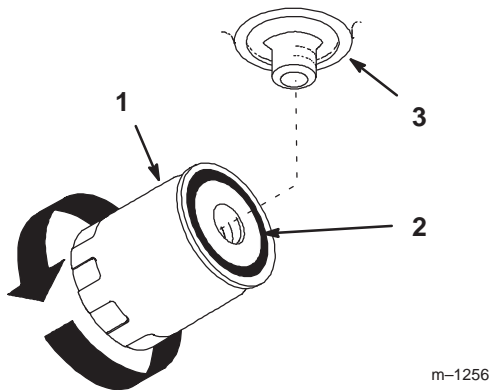

Figure 28
4. Apply a thin coat hydro fluid to the rubber gasket on the replacement filter (Fig. 28).
7. When fluid overflows filter turn the oil filter clockwise until the rubber gasket contacts the filter adapter, then tighten the filter an additional 1/2 turn (Fig. 28).